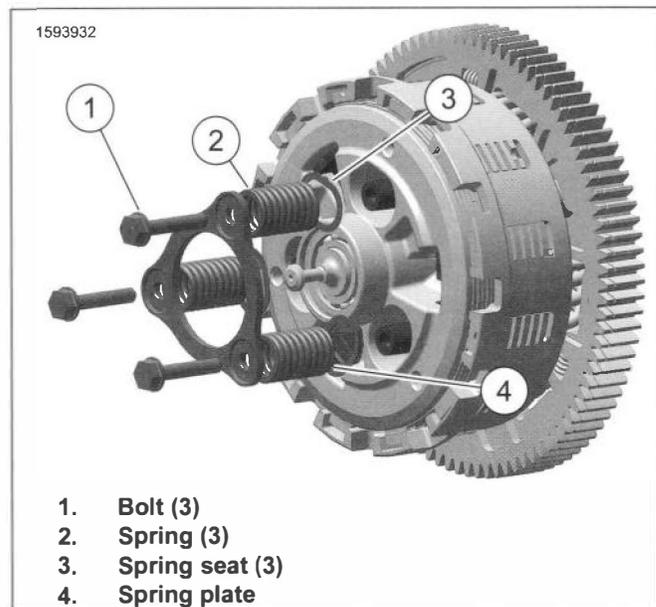

Figure 5-31. Spring Plate
8. See Figure 5-31. Install spring seats (3), springs (2), spring plate (4) and bolts (1). Alternately tighten.